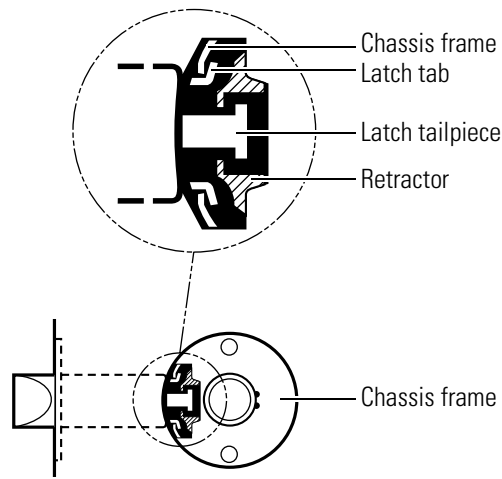

Figure 3.11 Engaging the retractor in the tailpiece
3. Install the lock chassis assembly from the outside. Make sure the latch tabs engage the chassis frame and the latch tailpiece engages the retractor, as shown in Figure 3.11.